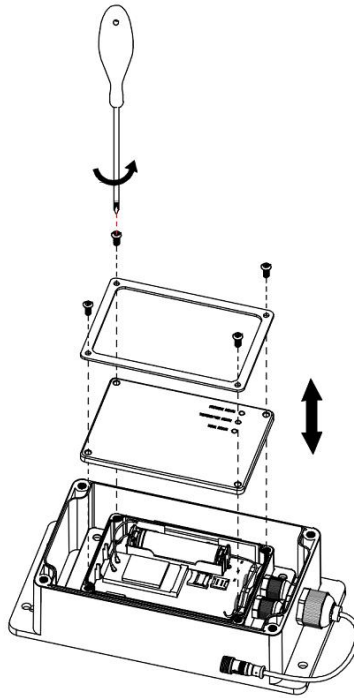

Figure 11
- ③ Use a Phillips screwdriver to open the top cover of the gateway device, pull out the battery insulation tab(PULL), and based on your configuration needs, insert a Micro SIM card or a Nano SIM card into the corresponding slot on the gateway board (**Figure 11**).
- ④ Please refer to Section 3.1.1 inside for the gateway components.